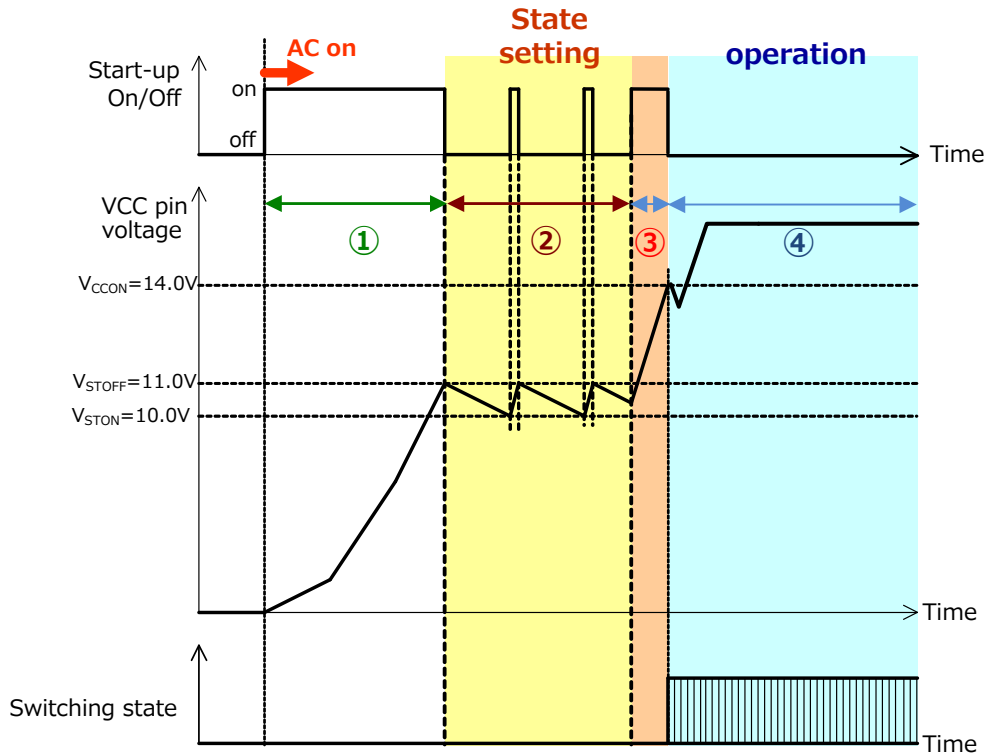

Fig. 30 Start up sequence
(19) Start up sequence (in case of standby operation by external signal)
Fig. 30 shows the timing chart at start up. Period of ① to ④ in the chart are described below.
- ① The AC input is turned on and start up circuit charges VCC pin voltage.
- ② When VCC pin voltage reaches start-up circuit stop voltage V_{STOFF} of 11V, the IC starts state setting (48ms max.). During state setting, VCC pin voltage is maintained in the range of 10V and 11V by start up circuit.
- ③ After state setting, start up circuit supplies current to VCC pin again and increases VCC pin voltage to start operation voltage of 14V.
- ④ When VCC pin voltage reaches to start operation voltage, IC starts switching operation and auxiliary winding voltage of transformer increases. Then, VCC pin voltage is supplied from auxiliary winding and IC starts normal operation.